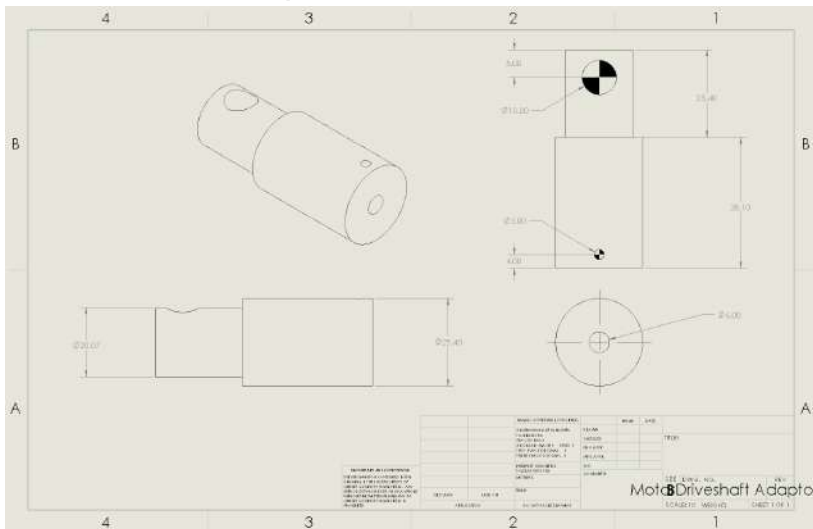

Figure 4: Driveshaft to Driveshaft Adapter drawing
1. Starting from 1" cylindrical aluminum stock, lathe one side down to a 20.07mm diameter 25.4mm in the TEAM Lab, as illustrated in figure 4.
2. Using a 6mm bit, drill a center hole 19mm deep on the side of the stock that is 25.4mm, as illustrated on figure 4.
3. Part the cylindrical aluminum stock off at 63.5mm, as illustrated in figure 4.
4. On the mill, drill a 3mm hole 4mm from the end of the 25.4mm end of the part. Drill down to the center hole drilled on the lathe, as illustrated on figure 4.
5. On the mill, drill a 10mm hole 8mm from the end of the 20.07mm end of the part. Drill all the way through the part, as illustrated on figure 4.